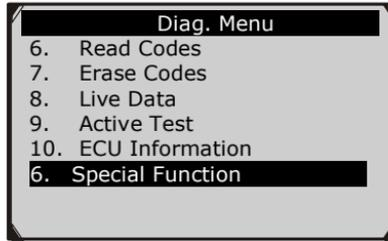

Figure 10-20
- 1) In the **Diagnostic Menu** (Figure 10-20), use the **UP/DOWN** button to select **Special Function** to do the ABS test. The scan tool displays as below.
- 1) In the **Diagnostic Menu** (Figure 10-20), use the **UP/DOWN** button to select **Active Test** to do the actuator test. The scan tool displays as below.